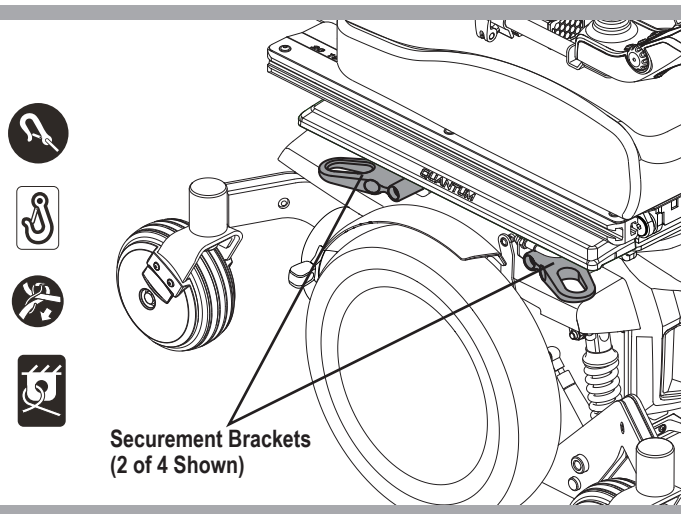

Figure 6. Transit System Securement Brackets
If your power chair is equipped with a transit securement system, it is equipped with manufacturer installed front and rear securement brackets and may be equipped with positioning belt anchoring brackets. See figure 6. Refer to the supplement provided with your power chair for information on how to use the transit securement system.
- Attach the four (4) tie-down straps to only designated, labeled transit securement points indicated by anchor symbols on the power chair. **See figures 6 and 7.** Tighten the straps sufficiently to remove all slack.